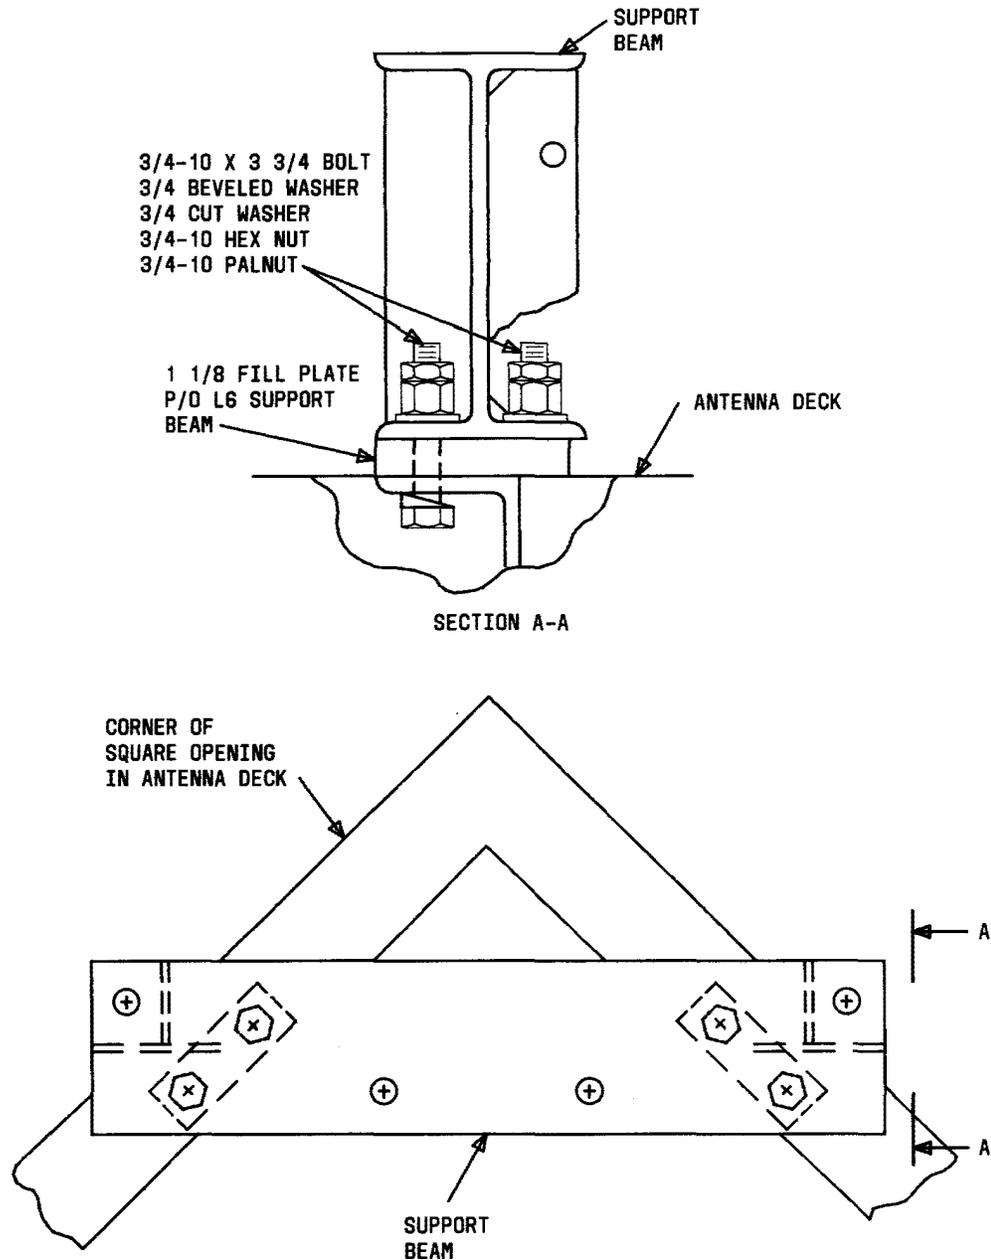

Fig. 8—Assembly of the KS-21972, L6 Support Beams to the Antenna Deck
H. Assembly of List 6 to Tower (See Fig. 8)